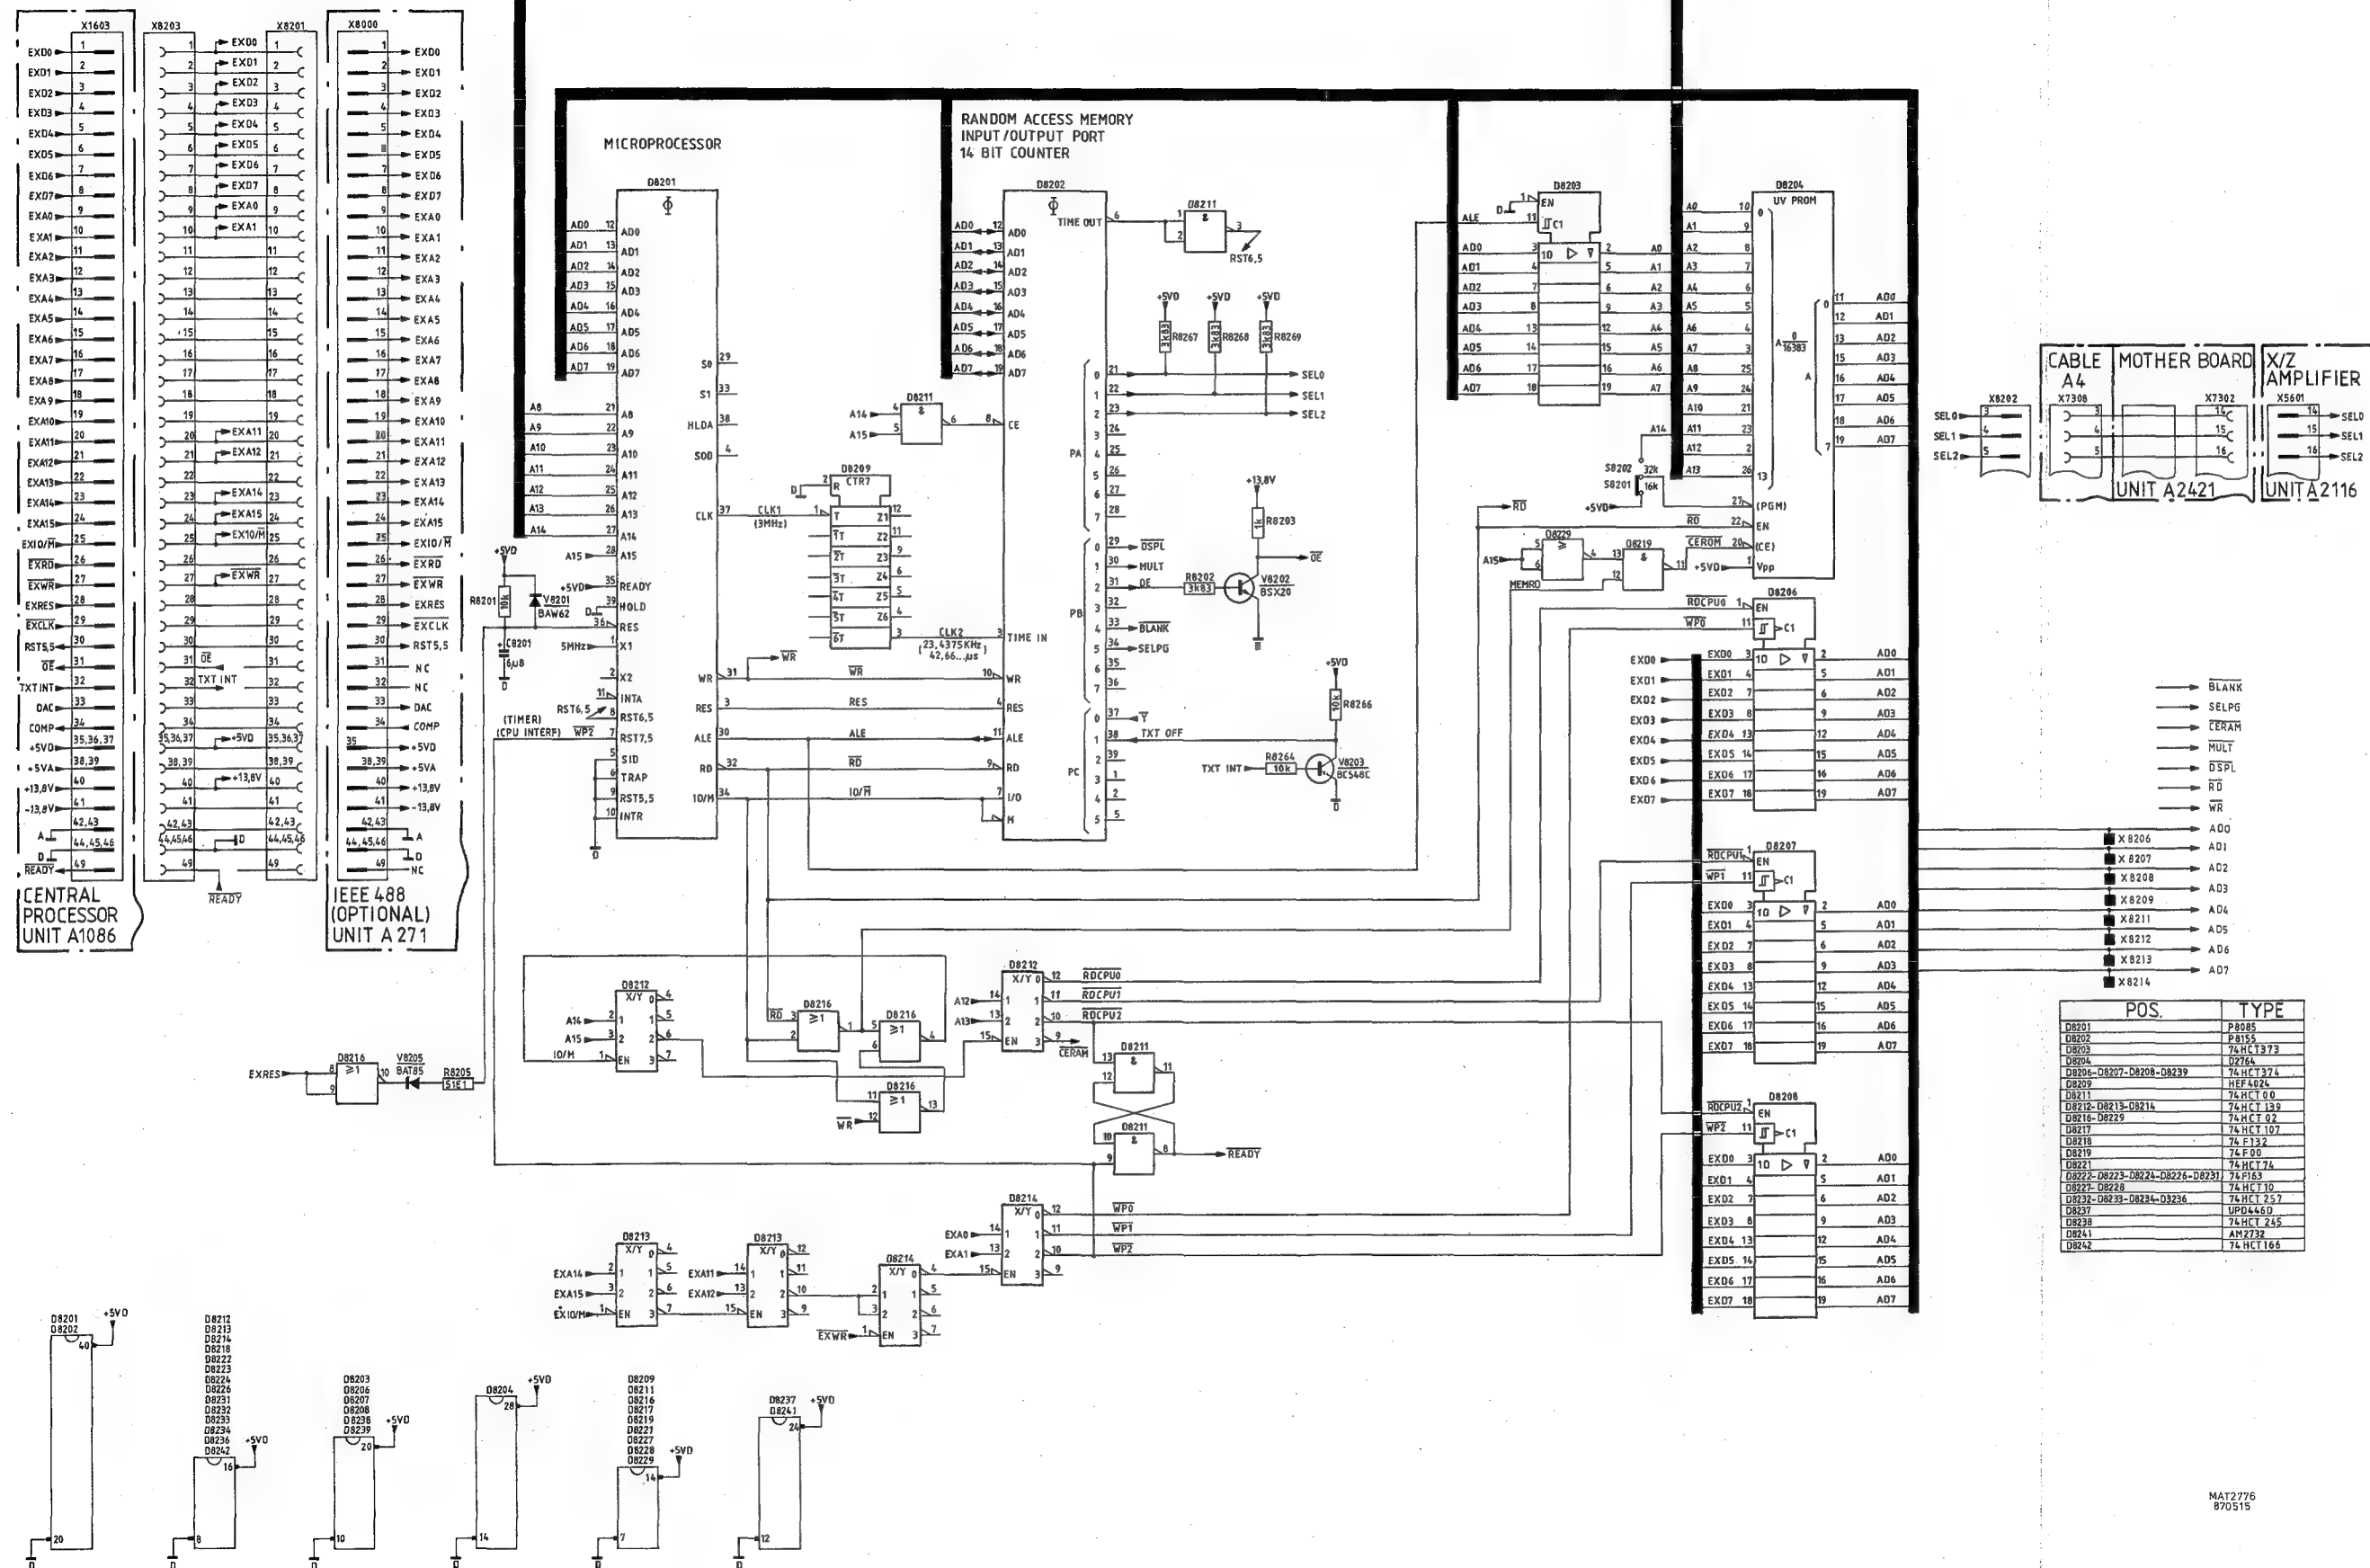

Fig.8.2. CRT text unit, circuit diagram 1.
8.1. CIRCUIT DESCRIPTION OF DIAGRAM (See fig.8.2.)